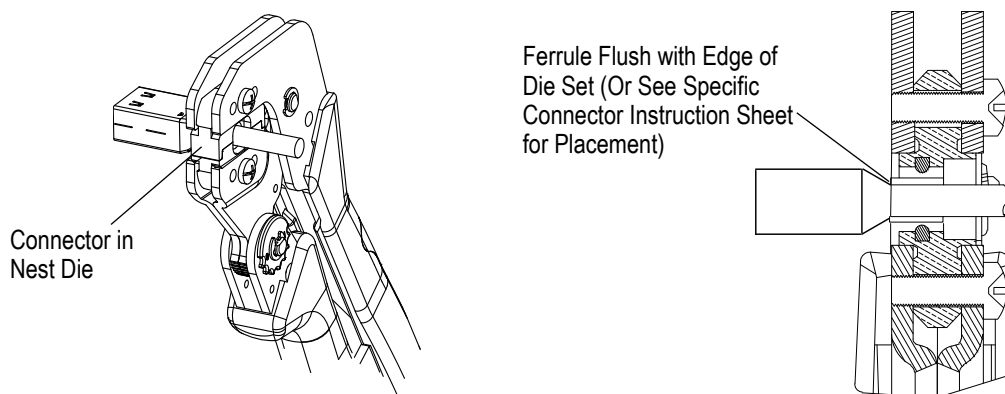

Figure 3
1. Place connector in the nest die so that the edge of the connector is flush with the edge of the die. See Figure 3.